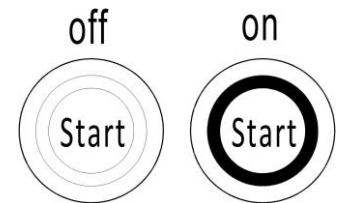

Fig.8: Button switch
Pull out the emergency button (Fig.1, 20), Press the button switch, and a green light will appear on the switch (Fig.8), type the password on pin-code panel and press ✓ button to start the truck. Truck can also be activated with RFID access card.
Always lower the forks fully. Press the button, green LED ring is off (Fig.8), and press the emergency switch (20).